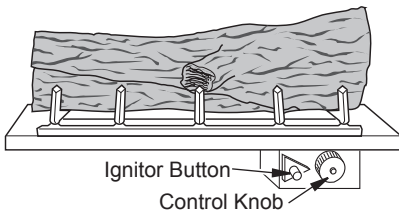

Figure 27 - Control Knob and Ignitor Button Location
3. Turn control knob clockwise  to the OFF position (see Figure 27, page 19).
4. Wait five (5) minutes to clear out any gas. Then smell for gas, including near the floor. If you smell gas, STOP! Follow "B" in the safety information, page 18. If you don't smell gas, go to the next step.
5. Turn control knob counterclockwise ↶ to the PILOT position. Press in control knob for five (5) seconds (see Figure 27).